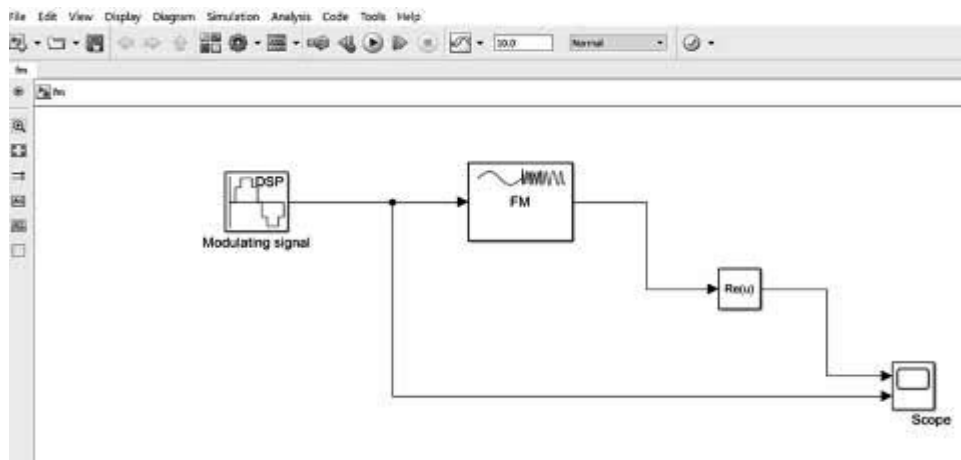

Fig 8.2: FM Generation using MATLAB -simulink
a) FM Generation using MATLAB -simulink (Fig8.2)
3. Connect blocks according to figure 8.2